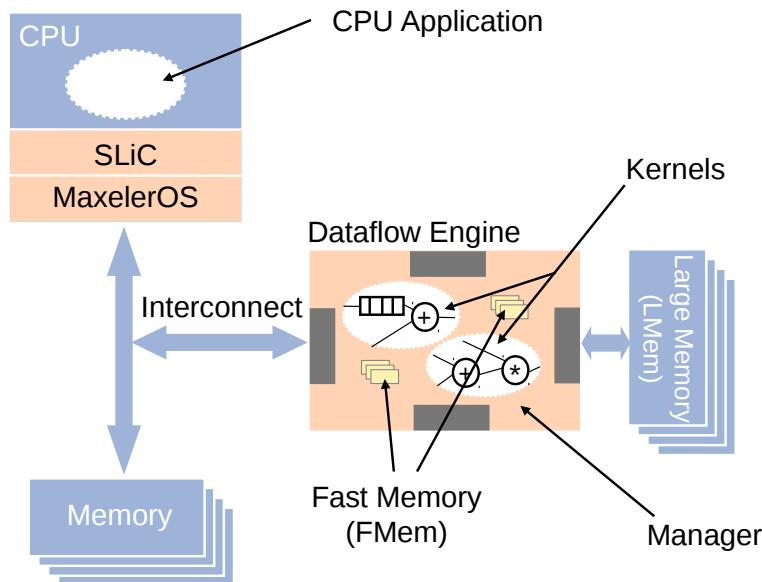

Figure 3: Dataflow engine architecture
*Figure 3* illustrates the architecture of a Maxeler dataflow processing system which comprises dataflow engines (DFEs) with their local memories attached by an interconnect to a CPU. Each DFE can implement multiple kernels, which perform computation as data flows between the CPU, DFE and its associated memories. The DFE has two types of memory: **FMem** (Fast Memory) which can store several megabytes of data on-chip with terabytes/second of access bandwidth and **LMem** (Large Memory) which can store many gigabytes of data off-chip.